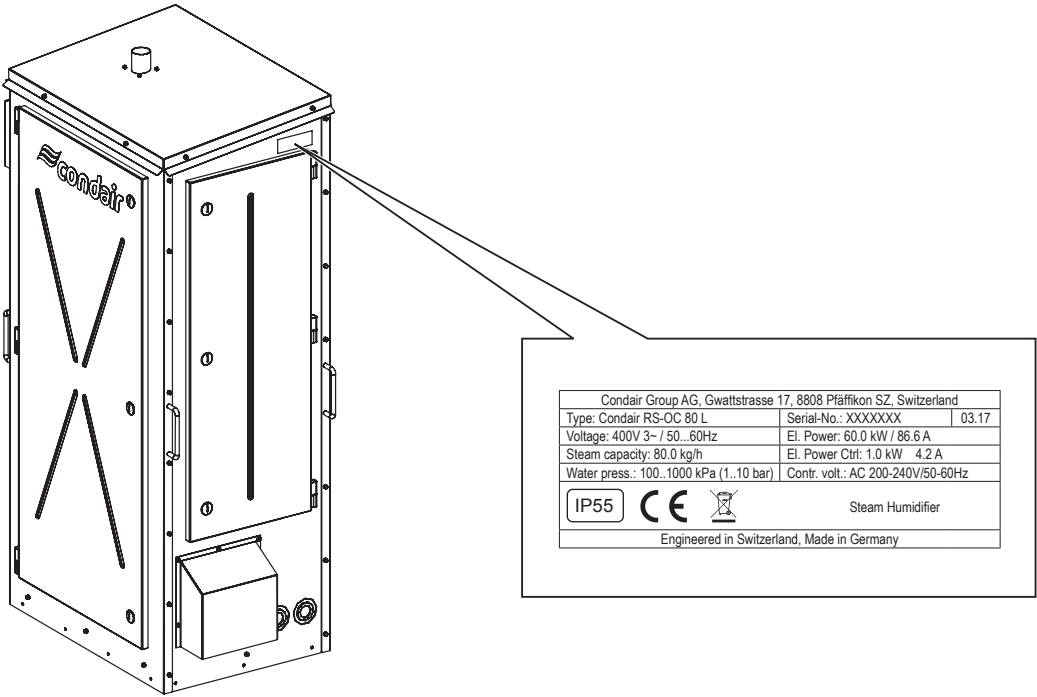
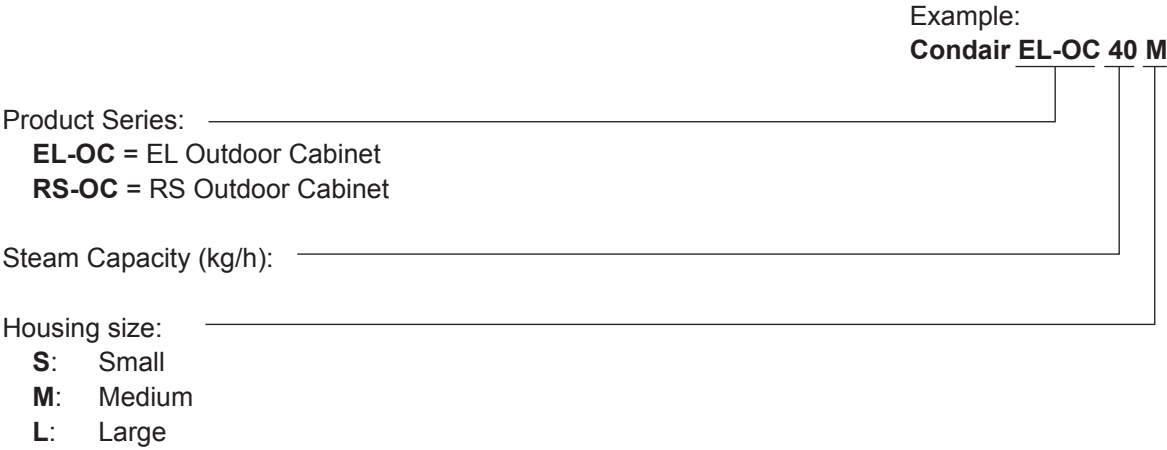

Fig. 3: Condair EL/RS Outdoor Steam Humidifier Specification Label
Fig. 4: Model number Breakdown
- Verify the model type, capacity and voltage on the specification label to ensure that it is suitable for your installation site. Refer to Fig. 3.
The specification label on the side of the Condair EL/RS Outdoor Humidifier shows its model number, serial number, and ratings. Refer to Fig. 3. The breakdown of the model number is shown in Fig. 4.